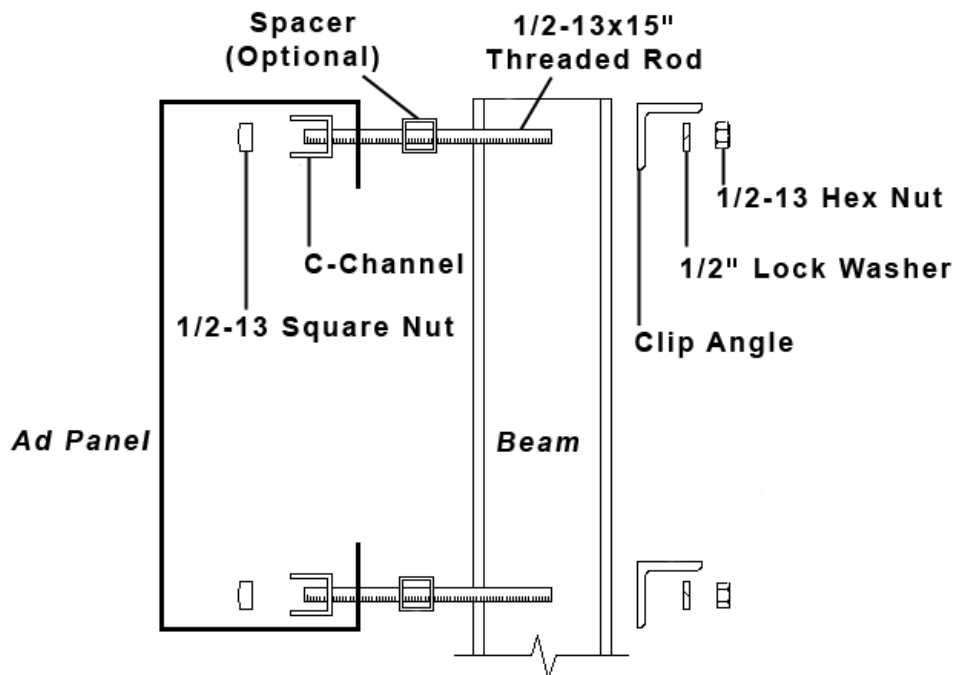

Figure 8: Ad Panel Mounting with C-channel, Side View
The installation uses C-channels; clip angles; $\frac{1}{2}$ -13" threaded rods; and $\frac{1}{2}$ " square nuts, hex nuts, lock washers, and optional spacers. Refer to **Figure 8** and **Drawing A-52187** in **Appendix A**.
3. Position the C-channel *inside* the ad panel cabinet along the upper and lower rear flanges as shown in **Figure 8**.